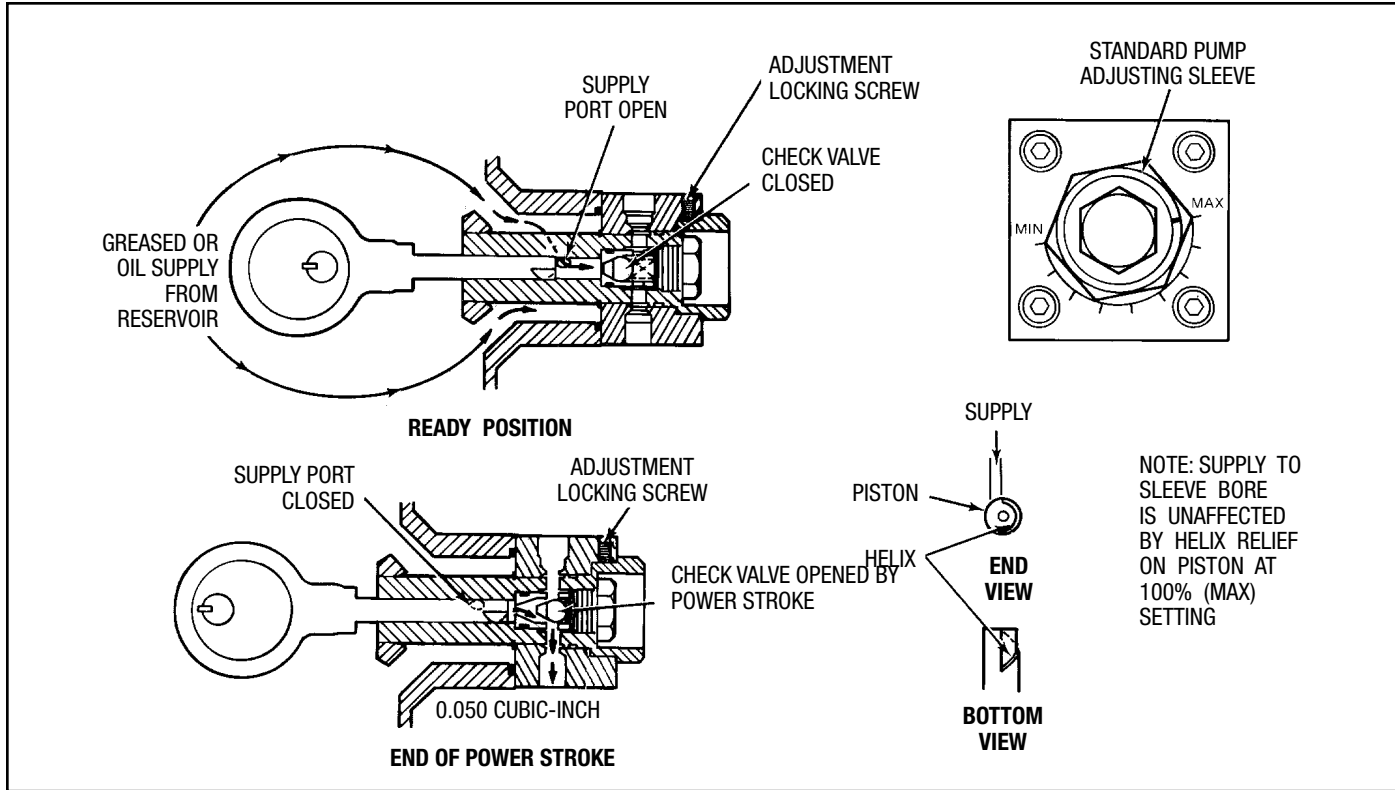
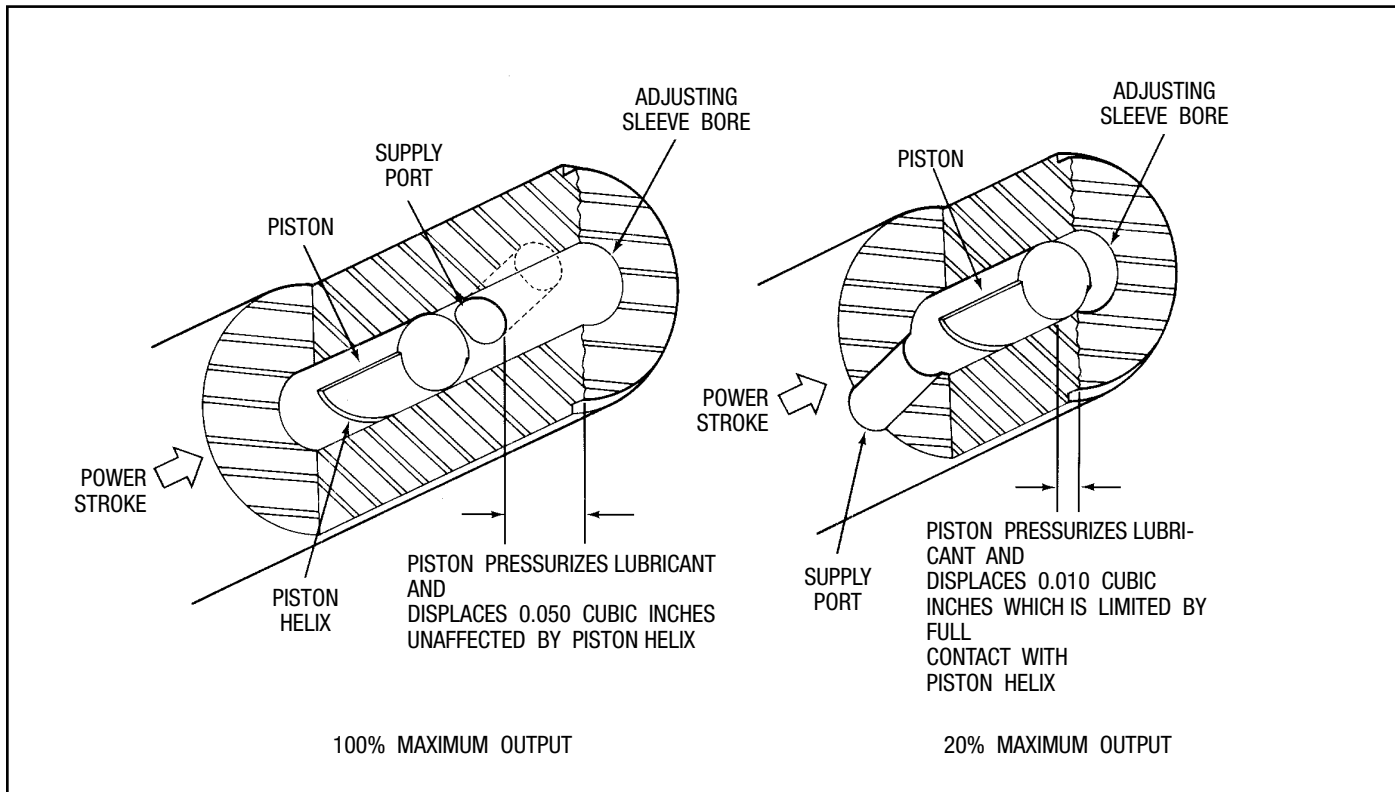
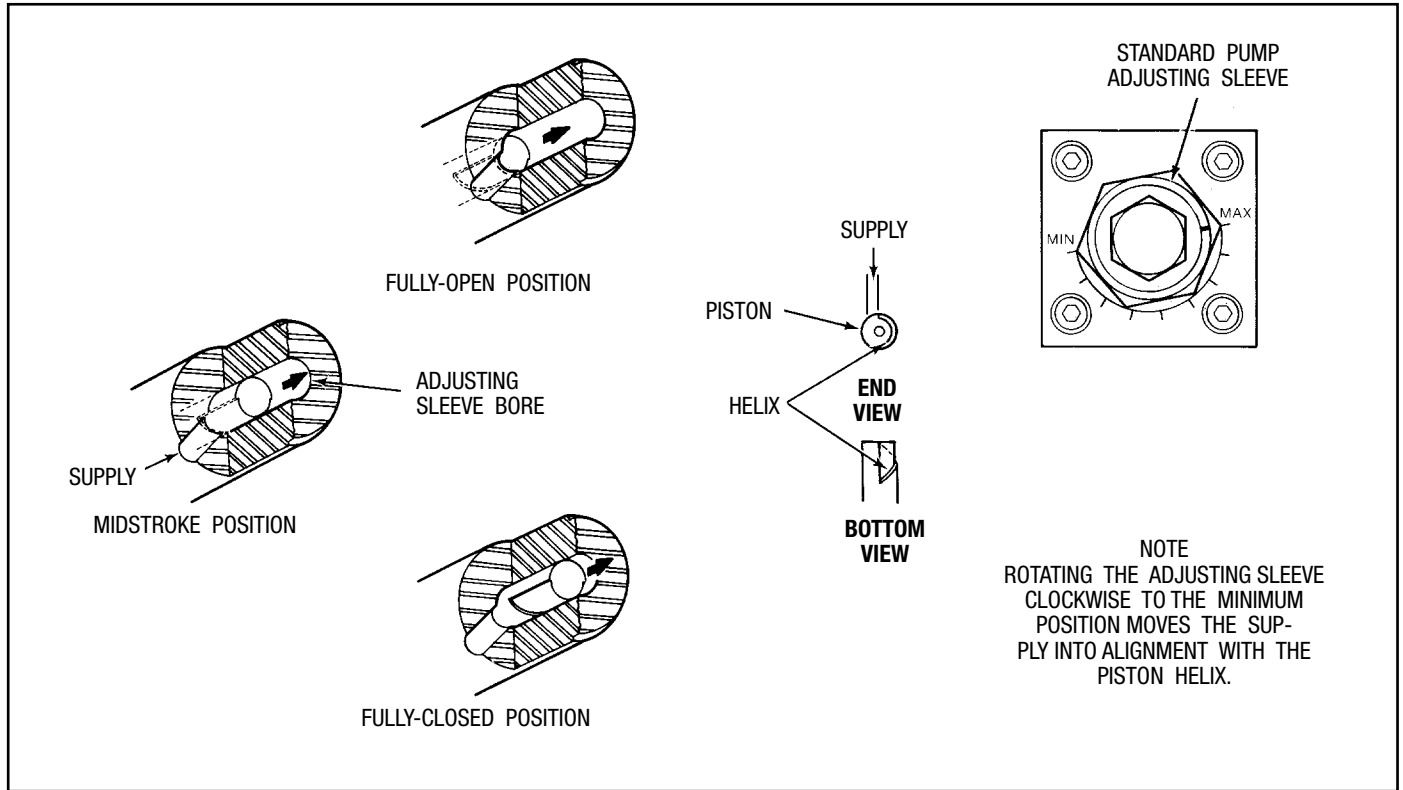

Figure 3-1. Pump Cycle at 100% Rated Output (Max. Setting)
Figure 3-2. Piston Displacement at Maximum and Minimum Settings
Figure 3-3. Piston Positions During Pump Cycle at 20% Rated Output (Min. Setting)
3.1.2.2 Maximum Output (100%). When the piston is in the ready position as shown in Figure 3-1, the supply port is open and allows head pressure in the reservoir to fill the piston bore in the adjusting sleeve forward of the piston. In the maximum (100%) position, the adjusting sleeve is rotated counterclockwise so that the supply port is not aligned with the piston helix (Figure 3-2). As the piston moves forward in the power stroke, the supply port is closed and the piston pressurizes the lubricant to overcome the check valve and dispense 0.050 cubic inches of lubricant for the full power stroke. When the
3.1.2.3 Minimum Output (20%). When the piston is in the ready position as shown in Figure 3-1, the adjusting sleeve is in the minimum position as shown in Figure 3-3. At this setting, the adjusting sleeve has been rotated 180 degrees clockwise which rotates the supply port to the opposite side of the piston and aligns it with the helix. The purpose of the helix is to keep the supply port open longer and prevent pressure buildup until it is closed. This reduces the effective piston stroke and minimizes the displacement to 0.010 cubic inches of lubricant as shown in Figure 3-2.
NOTE: Percentage displacements between 20% and 100% (0.010 and 0.050 cubic inches) are adjustable as shown in Table 3-1. The adjustment is secured by the setscrew shown in Figure 3-1.